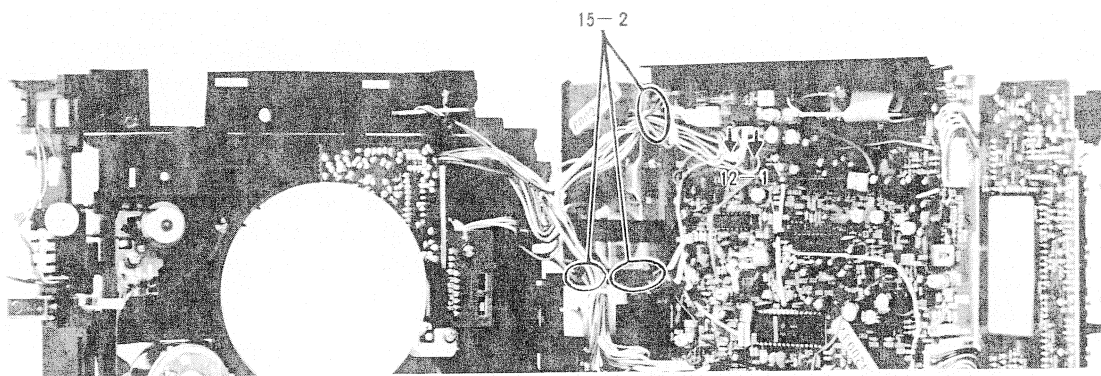

Fig. 25
4. Tach head (Fig. 25)
- 3 PC Boards mentioned above are fixed with 1 screw. (Fig. 25)
12. Sound-on-sound PC Board (Fig. 25)
15. Switching regulator (Fig. 25)